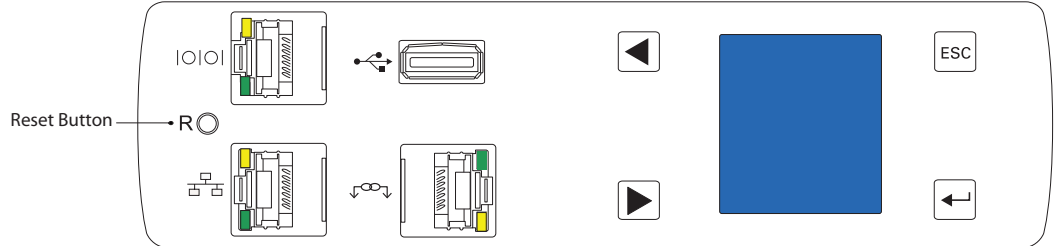

Figure 32. Reset Button
- 3. After 10 seconds, use the reset button to restart the eNMC module and apply the new settings (see Figure 32).